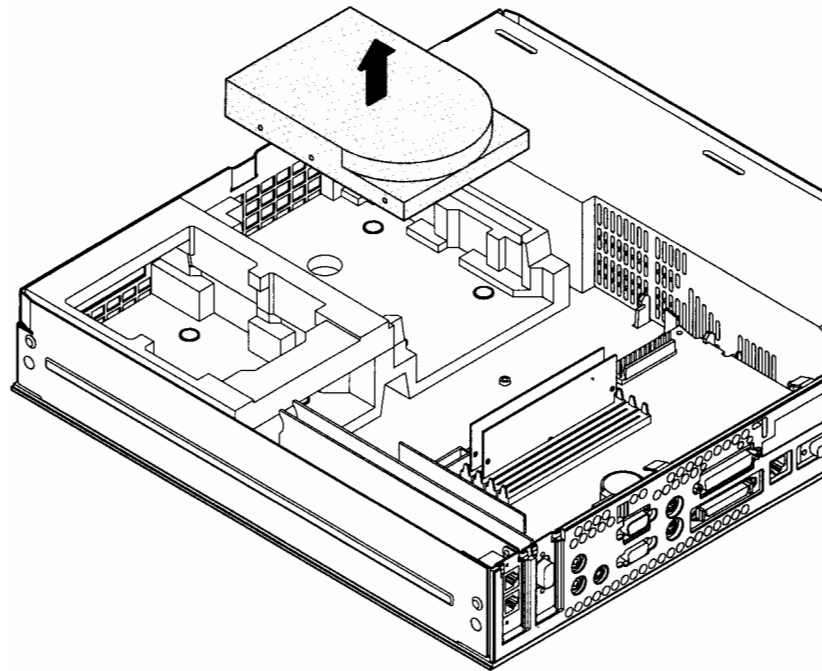

Figure B-12. Removing the Hard Disk Drive
7. Lift the existing drive straight up, as shown in Figure B-12.